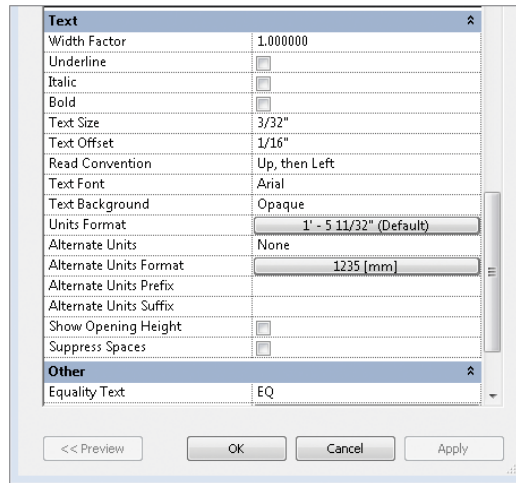

FIGURE 11.23 Dimension type properties
7. To change the dimension text to eliminate the white masking region behind the text, highlight the dimension by left-clicking it, and select Edit Type from the Properties palette. The Type Properties dialog box for dimensions opens, as shown in Figure 11.23.